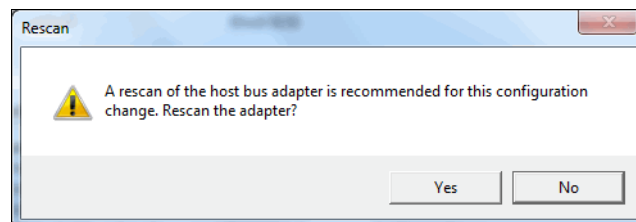

Figure 5-61 Rescan the iSCSI Software Adapter
7. The window shown in Figure 5-61 opens. Click **Yes** to rescan the adapter.